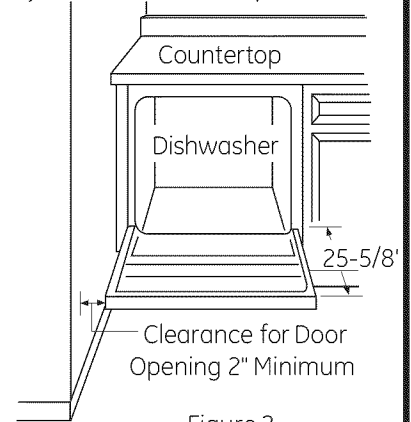

Figure 2
**CLEARANCES:** When installed into a corner, allow 2" min. clearance between dishwasher and adjacent cabinet, wall or other appliances. Allow 25-5/8" min. clearance from the front of the dishwasher for door opening. Figure 2